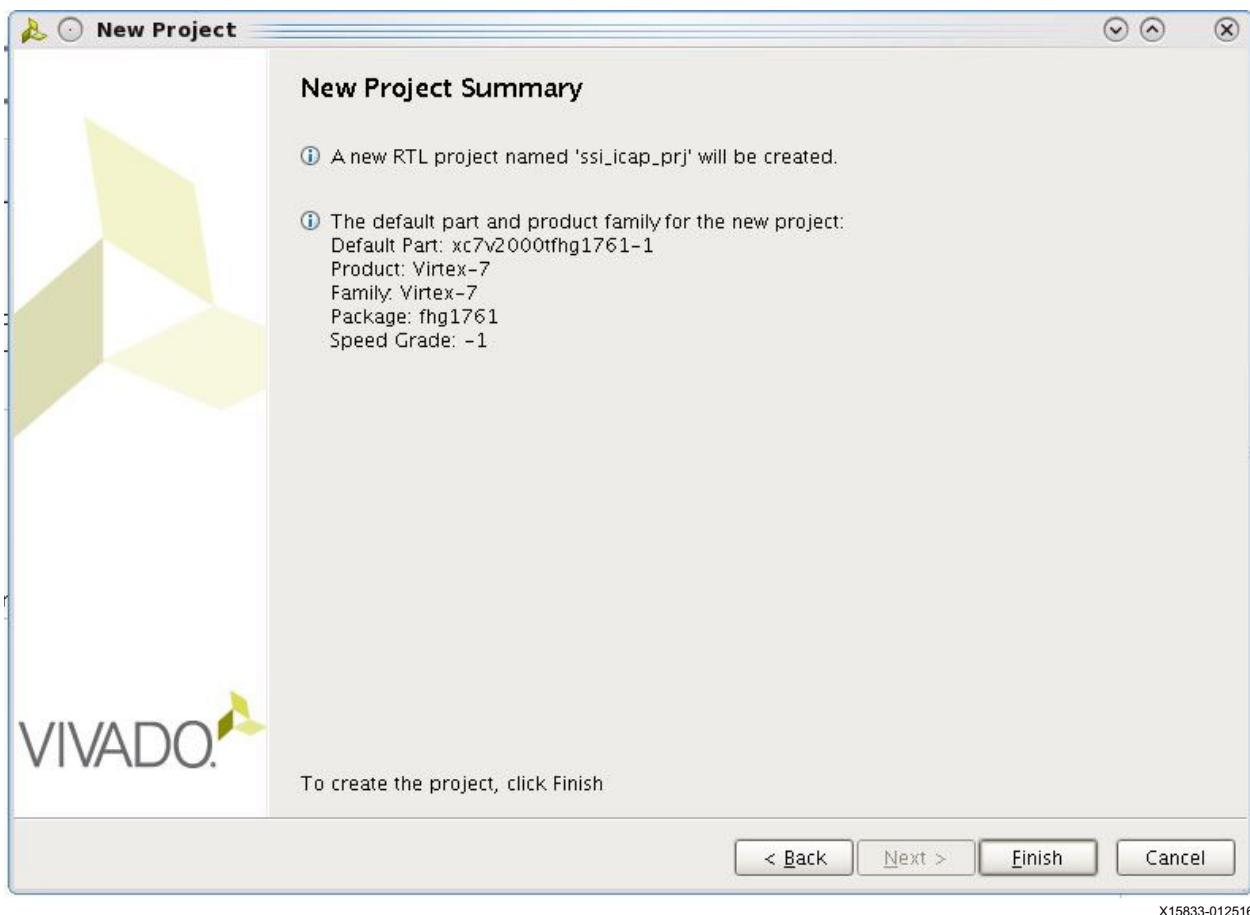

Figure 5: Project Summary Page
7. On the *New Project Summary* page (Figure 5), verify the selected options are correct, and click *Finish*.